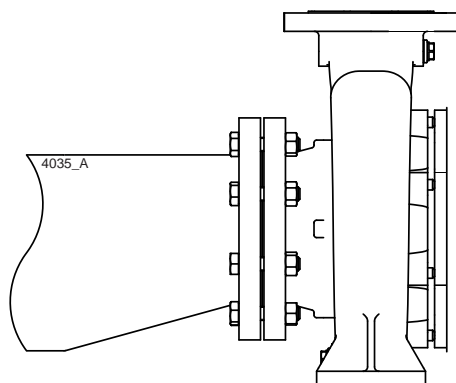

Figure 7: *Eccentric reducer to suction flange.*
- The passage of the suction pipe must be amply dimensioned. This pipe should be as short as possible and run towards the pump in such a way that no air pockets can arise. If this is not possible, a venting facility should be provided at the highest point of the pipe. If the inside diameter of the suction pipe is larger than the suction connection of the pump, an eccentric reducer should be applied to prevent air pockets and whirls. See figure 7.